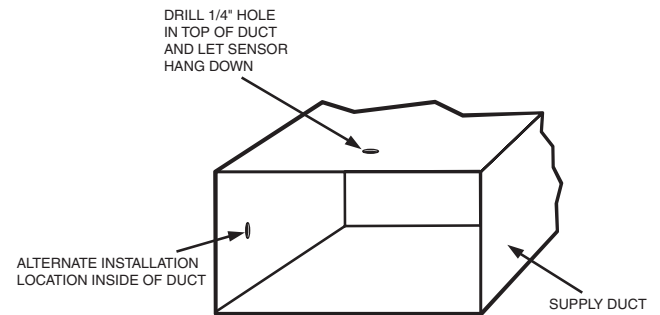

**Fig. 6 — DAT Installation Location**
1. Drill or punch a 1/4-in. hole in the supply duct. See Fig. 6. Duct sensor can be installed to hang from top of duct or from the sides. Sensor probe can touch side of duct.